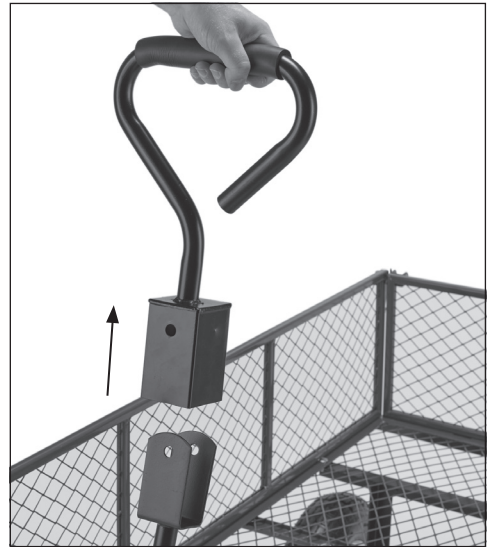

Fig. 24
- Then lift the handle head away from the shaft (Fig. 24).